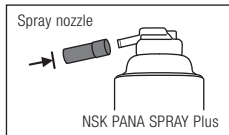

Fig. 20
- ① Attach the spray nozzle included in the nozzle of the PANA SPRAY Plus (Fig. 20).